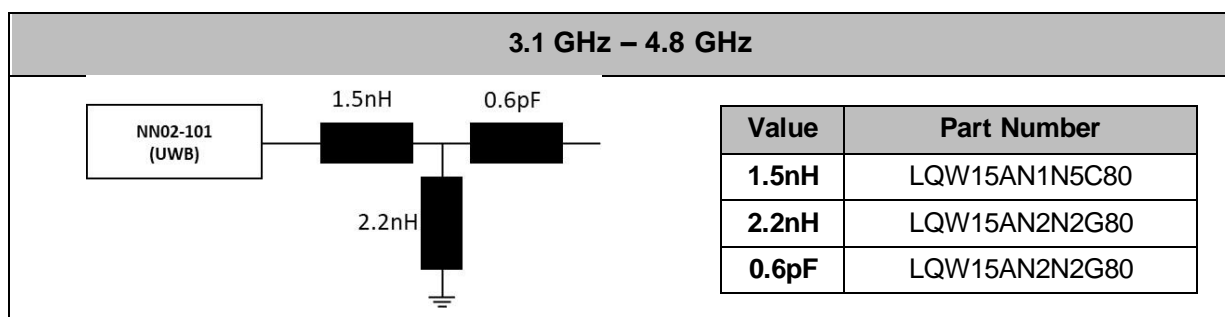

Figure 21 – Matching network implemented in the Evaluation Board (**Figure 20**) for covering the frequency region from 3.1GHz to 4.8GHz.
The antenna performance is **always conditioned by its operating environment**. Different devices with different printed circuit board sizes, components nearby the antenna, LCD's, batteries, covers, connectors, etc. may require retuning the matching network for best RF performance. Accordingly, it is highly recommended placing pads compatible with 0402 and 0603 SMD components for a matching network as close as possible to the feeding point of the antenna element in the ground plane area, not in the clearance area. This provides a degree of freedom to tune the NANO mXTEND™ antenna component once the design is finished and considering all elements of the system (batteries, displays, covers, etc.). To ensure optimal results, the use of high-quality factor (Q) and tight tolerance components in the matching network is highly recommended (e.g., Murata components (Figure 21)).
Figure 22 – VSWR and Total Efficiency for the UWB Low Frequency Response (3.1 GHz – 4.8 GHz) from the Evaluation Board (Figure 20) with the matching network in Figure 21.
Table 6 – Antenna gain and total efficiency from the Evaluation Board (Figure 1) for 3.1GHz – 4.8GHz with the matching network of Figure 21.